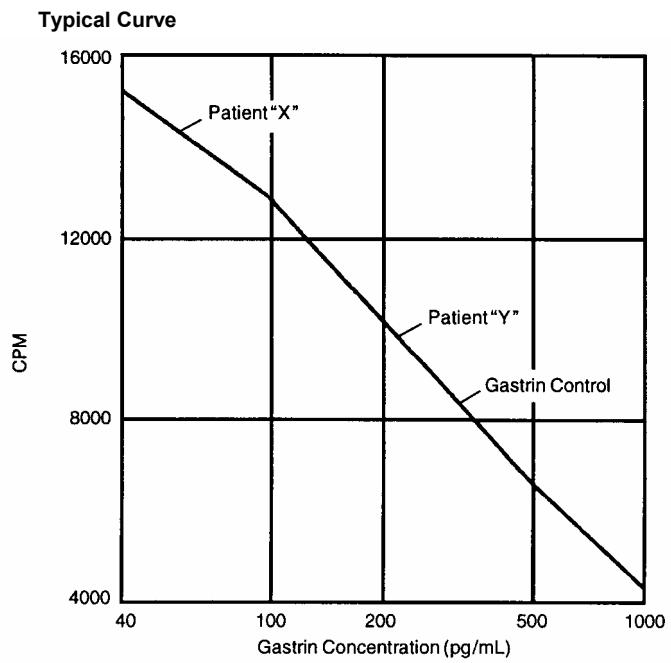

FIGURE 1
- 10.3 Draw the best fitting curve. Refer to FIGURE 1 and TABLE III for a typical calibrator curve and data.